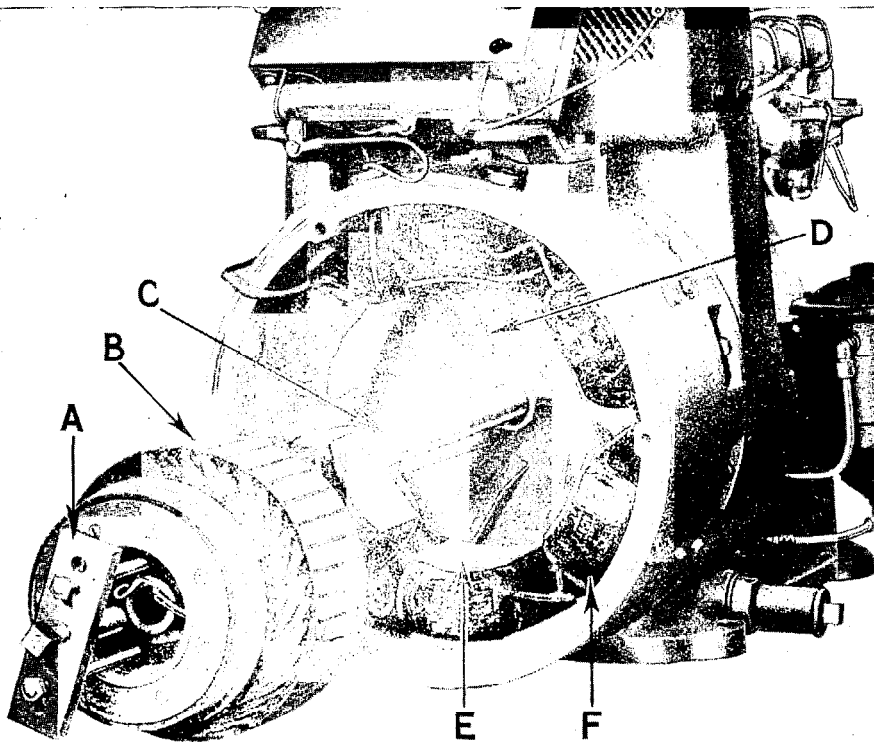

Figure 30
3. Remove armature from shaft with armature tool (Fig. 30). To replace armature, reverse the above procedure. Insert driving screw of armature tool in armature shaft, slip armature onto shaft. After aligning the armature keyway with the shaft key, press the armature into position. After the armature has been started, the armature spacer can be used to push the armature further onto the shaft. Hold the armature with a belt to prevent it from turning when being replaced on shaft.